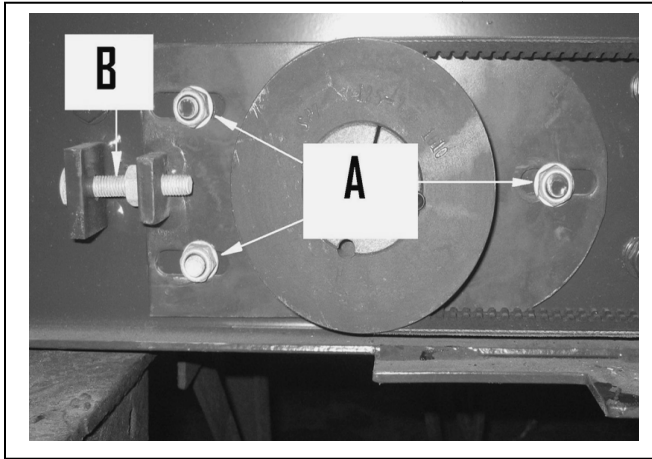

Fig 7.
5. To adjust V-belts. Loosen 3 \* M10 Nuts (item A) Fig 7.
8. When the correct tension is achieved, lock the adjuster bolt (B) Fig 7. Tighten M10 nuts (A) Fig 7.